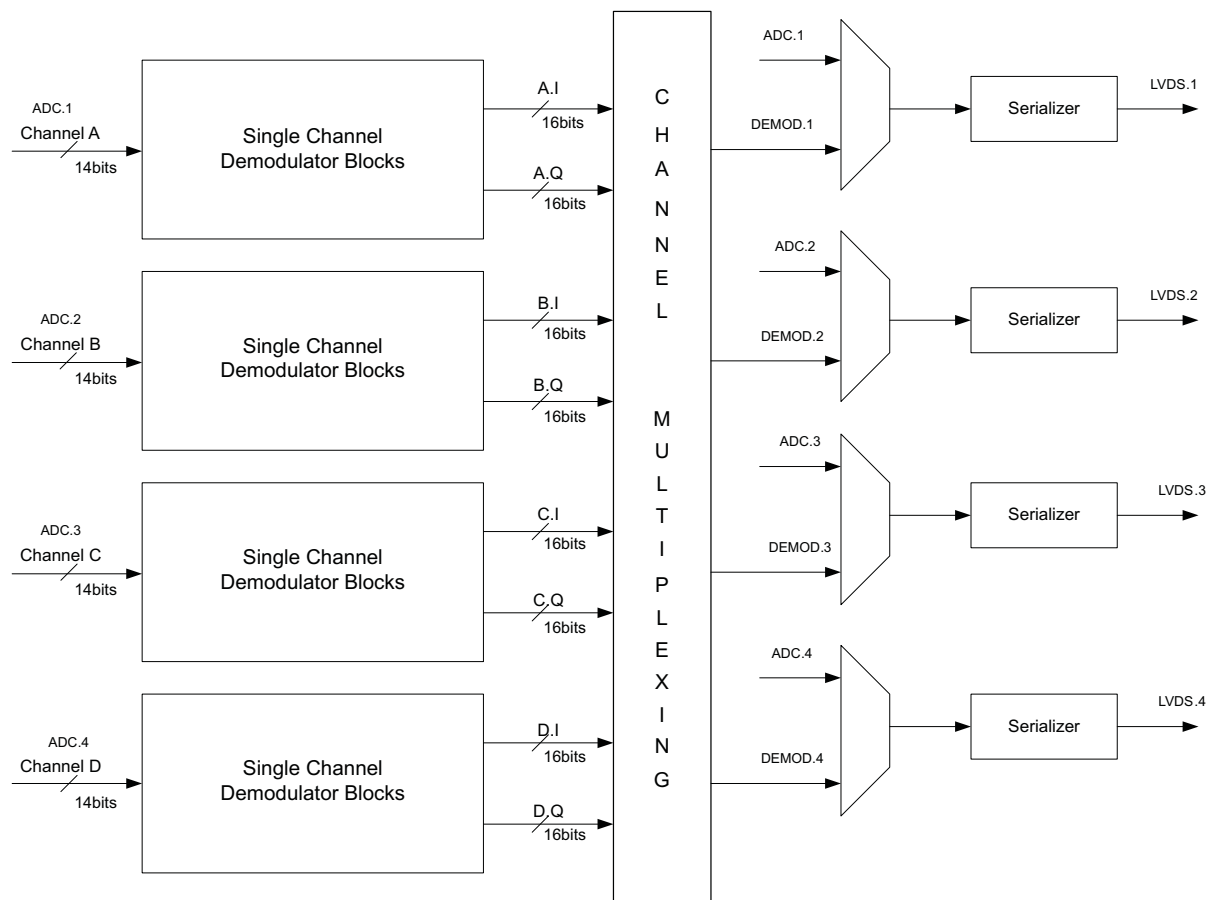

Figure 86. Channel Multiplexing
3. Decimator Block has two functions, Decimation Filter and Down Sampler. Decimation Filter is a variable coefficient symmetric FIR filter and its coefficients can be given using Coefficient RAM. Number of taps of FIR filter is  $16 \times \text{decimation factor (M)}$ . For decimation factor of  $M$ ,  $8M$  coefficients have to be stored in Coefficient Bank. Each coefficient is 14 bit wide. Down-sampler gives out 1 sample followed by  $M-1$  samples zeros.
4. In Figure 86, channel multiplexing is implemented for flexible data routing. :